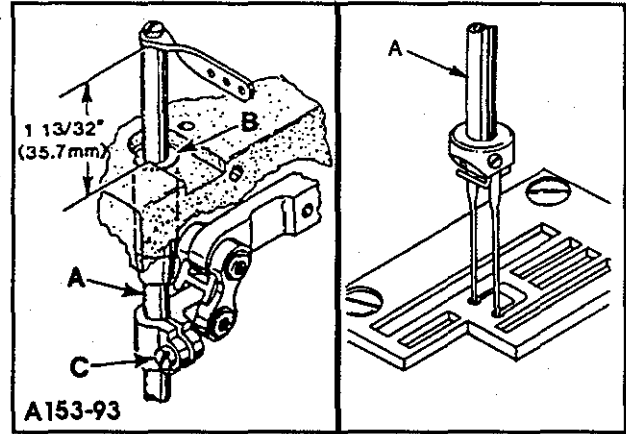
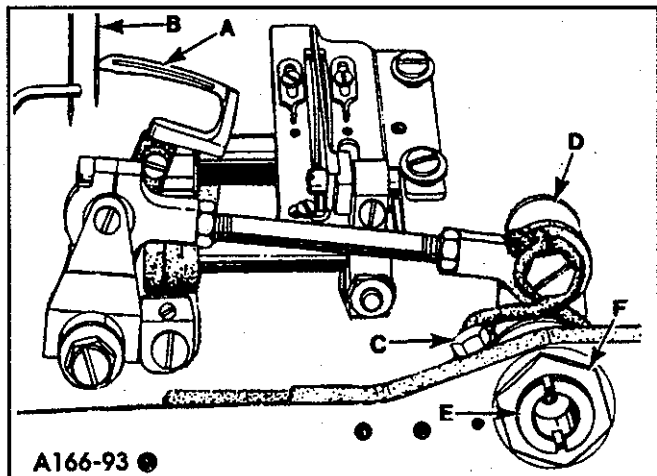
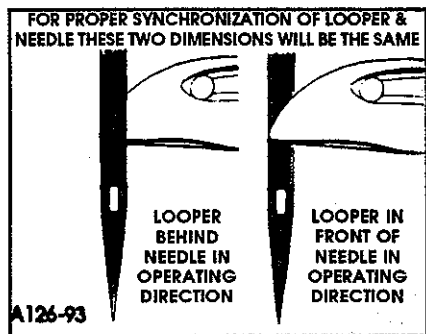

FIG. 4
FIG. 6
FIG. 7
Insert a new set of needles. With needle bar (A, Fig. 4) at top of its stroke, check to ensure an approximate setting of $1 \frac{13}{32}$ " (35.7mm) from top of needle bar to top of needle bar bushing (B). Adjustment can be made by loosening clamp screw (C) and moving needle bar up or down, re-tighten screw (C) TEMPORARILY. Turn handwheel to bring needle bar down to ensure that needles center in needle holes of throat plate as shown in Fig. 4. Adjustment can be made by loosening screw (C) slightly, allowing needle bar to be turned as required, being careful not to change the temporary height setting. Tighten clamp screw (C). Re-check temporary height setting.
Insert looper into the looper rocker, pushing it all the way down and tighten screw against flat on shank of looper. Turn handwheel in the operating direction until the point of the looper (A, Fig. 6) moving to the left, is even with the left side of the right needle (B). Note the height of the eye of the needle with respect to the looper point. (See Fig. 7). Turn the handwheel in the reverse direction until the point of the looper again moving to the left, is even with the left side of right needle but in front of the needle (See Fig. 7). If the height of the eye of the needle with respect to the looper point are the same, looper and needle motions are synchronized - a variation of .005" (.127mm) is allowable.
Loosen screw (C, Fig. 6) in looper drive lever (D). A rod of .146-40 thd. or Union Special Screw No. 22870 A can be threaded into the looper drive lever rocker shaft through the center of thrust adjusting screw (E). Tap or pull slightly as required to position shaft for proper synchronization. Tighten screw (C) securely and remove rod or screw used to position shaft.
Turn handwheel in operating direction until point of looper is flush with the left side of left needle. Final setting is $3/64$ " (1.2mm) between top of needle's eye and bottom surface of looper (See Fig. 7). If adjustment is required, loosen screw (C, Fig. 4) move needle bar CAREFULLY up or down, not to disturb alignment of same. Re-tighten screw (C) and check to ensure that the needles center in needle holes of throat plate.